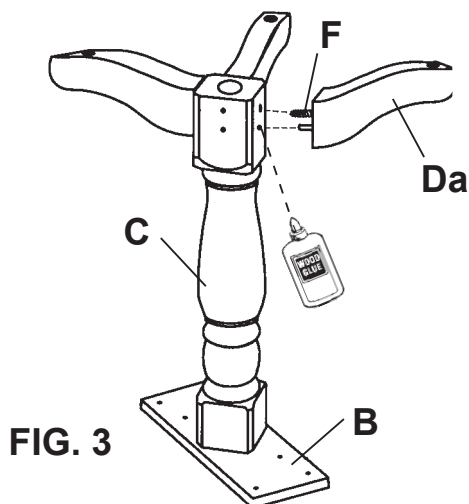

FIG. 3
- 3) To attach the foot, glue dowels in upper holes and put the Hanger Bolts (F) through the lower holes in the base of the Pedestal. Put a Curved Washer (G) and 3/8" Hex Nut (H) over the Hanger Bolt and tighten firmly with a box-end or open-end wrench. See FIGURES 3 and 3A.